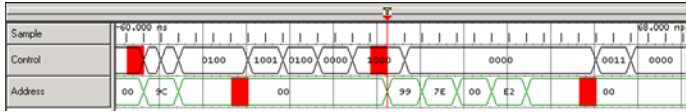
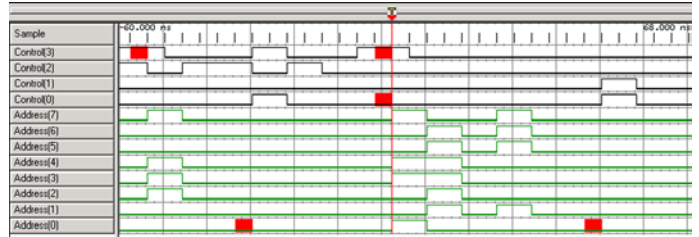

Figure 1. Sample ticks, Control bus and Address bus showing red glitch flags.
Figure 2. 4-bit Control bus and 8-bit Address bus expanded showing red glitch flags on individual signals.
In Figure 1, the top waveform is Sample, which shows the sample ticks that represent the logic analyzer’s deep timing sampling rate of up to 2 GHz (500ps). The next two lines are the bus waveforms – the 4-bit Control bus and the 8-bit Address bus. The red glitch flags that appear on both bus waveforms signify that there was more than one transition between the sample points at those locations.
In Figure 2, the analyzer has expanded the Control bus into its four individual signals and the Address bus into its eight individual signals. The red glitch flags from the bus waveform in Figure 1 are now shown as glitch flags on signal lines Control (3) and Control (0), and as two glitches on the Address (0) signal line.